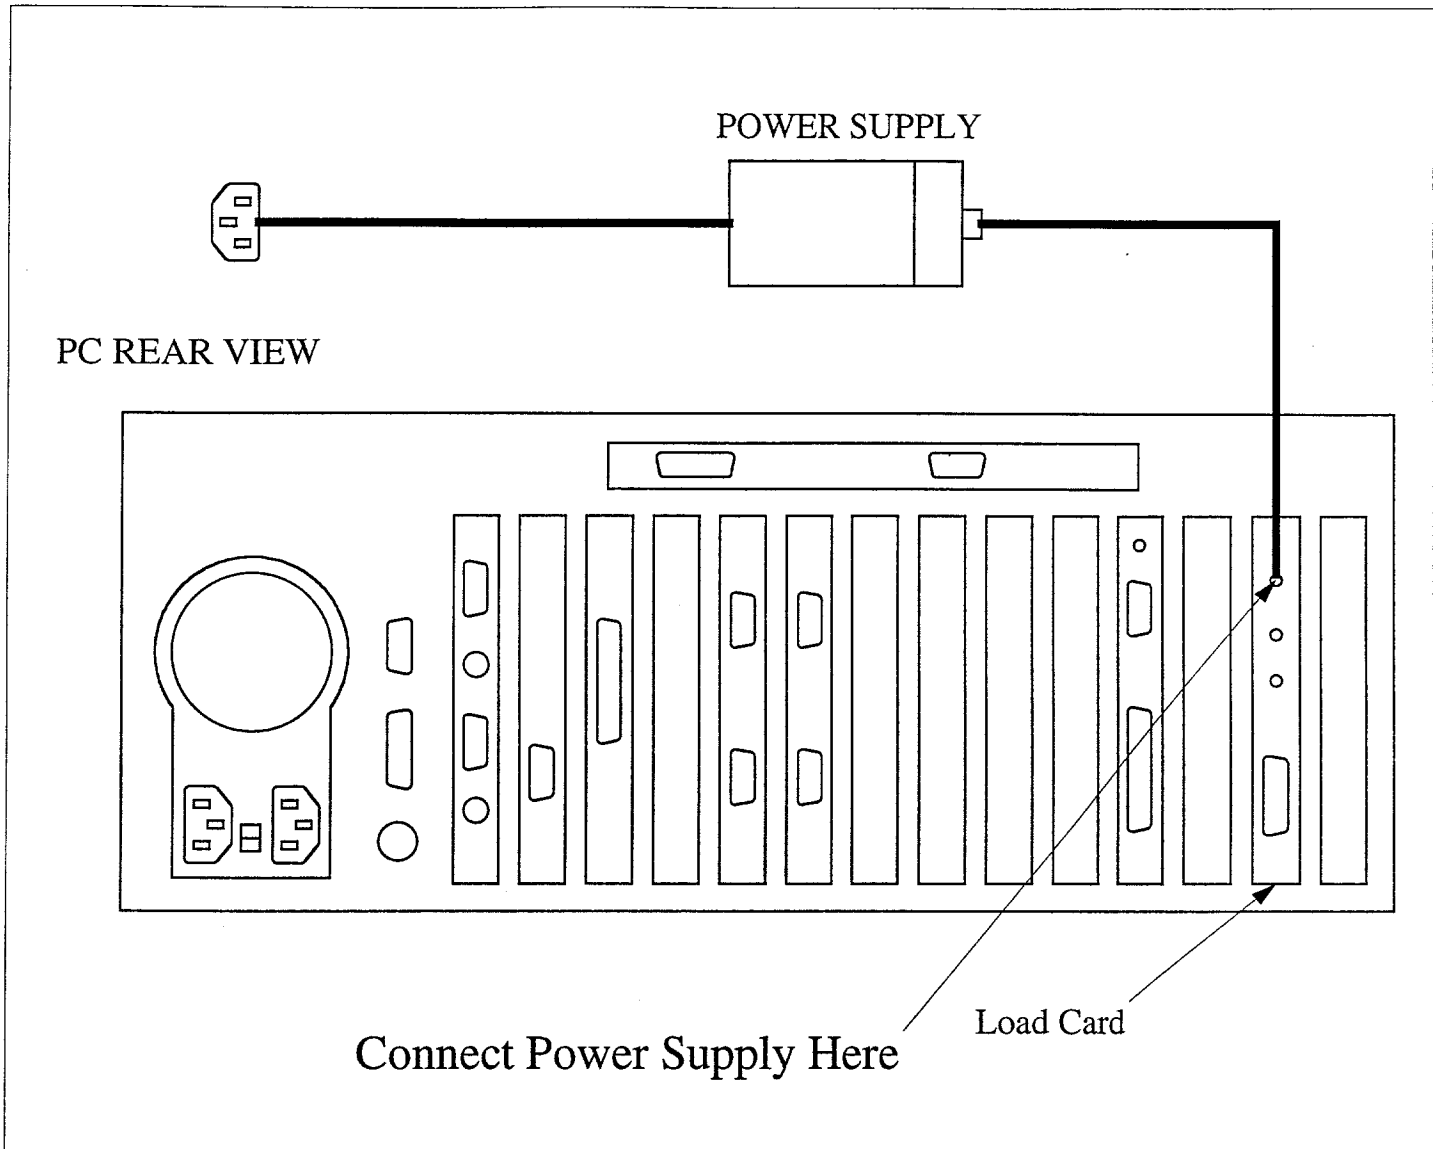

Figure F.9 Rear View Of The PC
- POWER SUPPLY cable from the small power supply unit to the load card power plug, and from the power supply unit to the ISOBAR or main power strip (see Figure F.9).